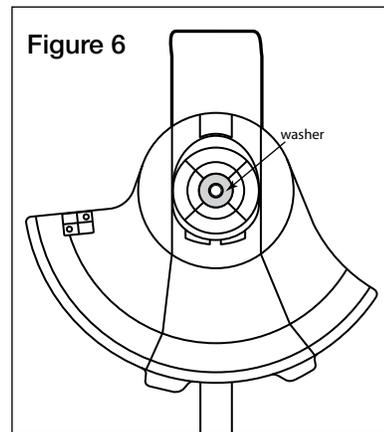

Figure 6
- 2) Remove the washer (Figure 6).